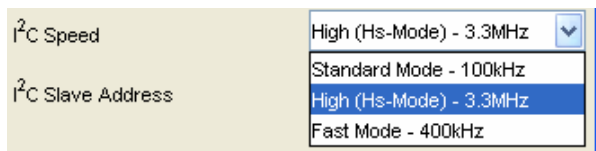

Figure 11: ADC121C021 Control Panel
6. Select the desired I²C Speed from the pull-down menu (Figure 11).